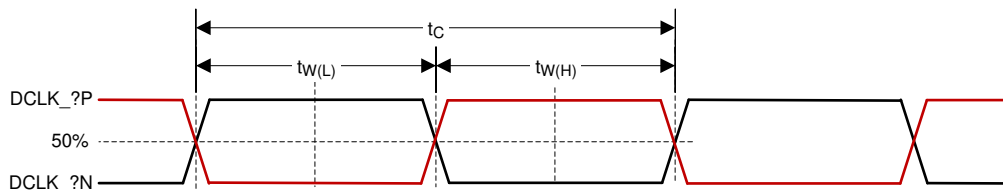

Figure 6-12. HSSI CLK Characteristics
- (5) See Figure 6-12 for rise time and fall time for HSSI.
- (6) See Figure 6-12 for pulse duration high and low for HSSI.